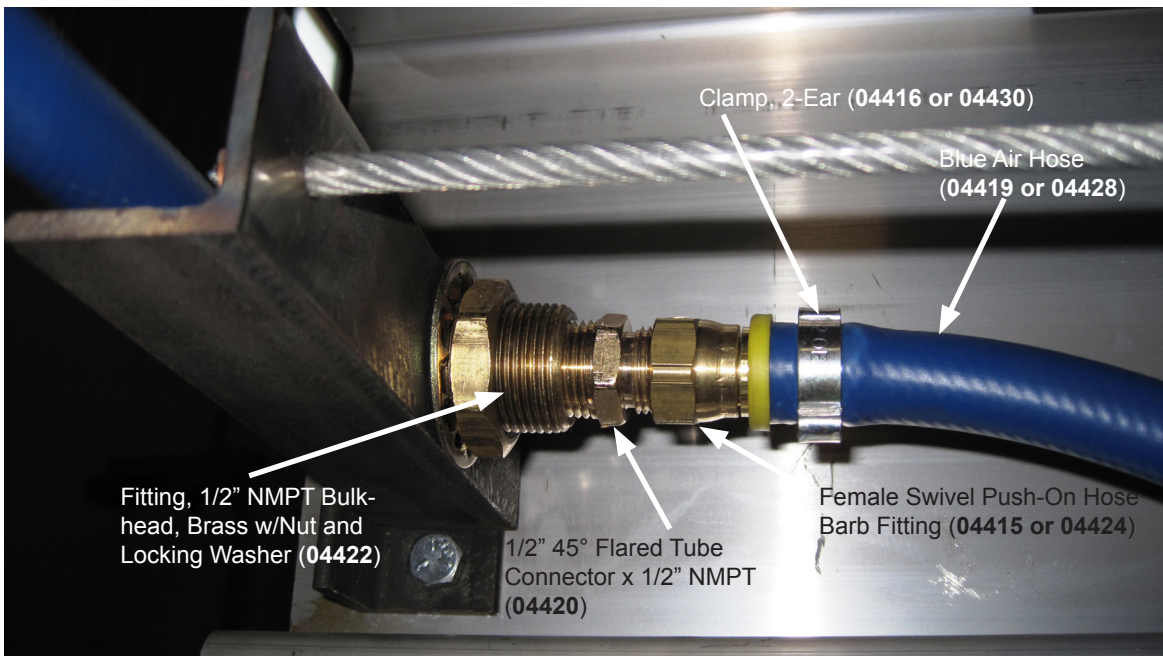

Figure 2. Hose connection.
1. Place bulkhead fitting through incoming air side of tagline bracket. Secure with locking washer and hex nut provided (**figure 2**).